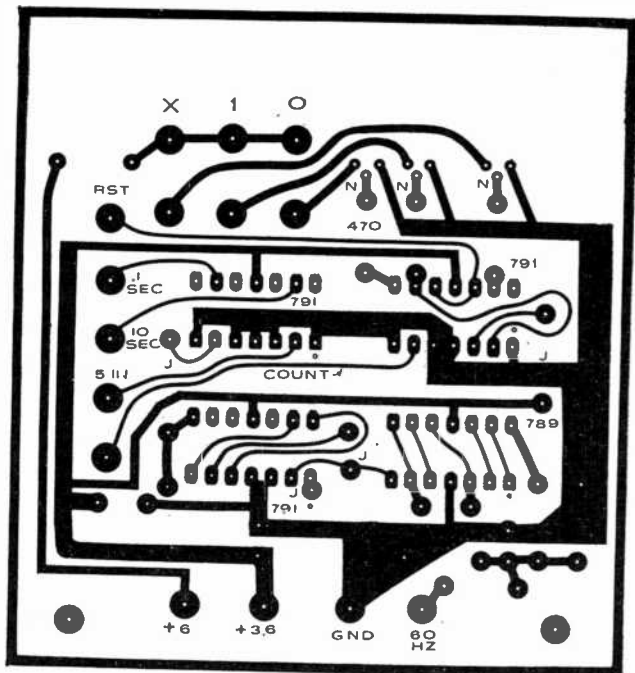

Fig. 10. Actual-size foil pattern for the gate module. As in the other foil patterns, each input-output termination and semiconductors are marked.
**Gate (*M6*)** The Gate module schematic is shown in Fig. 9. Once again, construction will be greatly simplified by the use of a PC board. You can make your own using the pattern in Fig. 10. Mount the four jumpers on the component side as